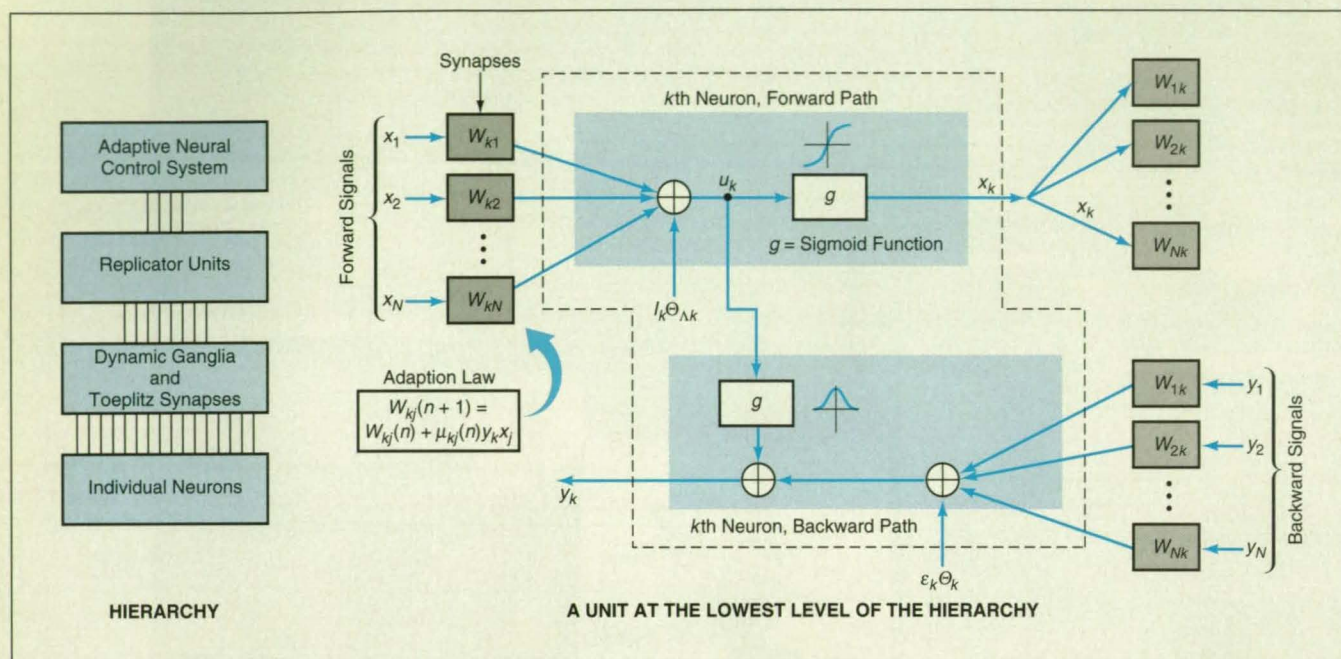

Figure 2. The **Hierarchical Structure** groups neurons and synapses into modular substructures that, collectively, perform the various adaptive control functions.
Figure 2. This Timing Diagram illustrates the various modes of operation of the circuit. A high S input causes the output (Q) to go low. Thereafter, a high R input can reset Q to high, but only so long as S remains low.
Figure 2 illustrates the hierarchy of modular structures used to implement the control scheme. The processing units at the lowest level of the hierarchy are tapped delay lines and units that implement mathematical models of neurons with both forward and backward signal paths. The adjustment of each of the synaptic weights, W_{kj} , according to a local learning law, is built into each processor. Moreover, the adaptive speeds (or rates of learning) $\mu_{kj}(n)$, are updated so as to guarantee convergence in both system identification and adaptive control.